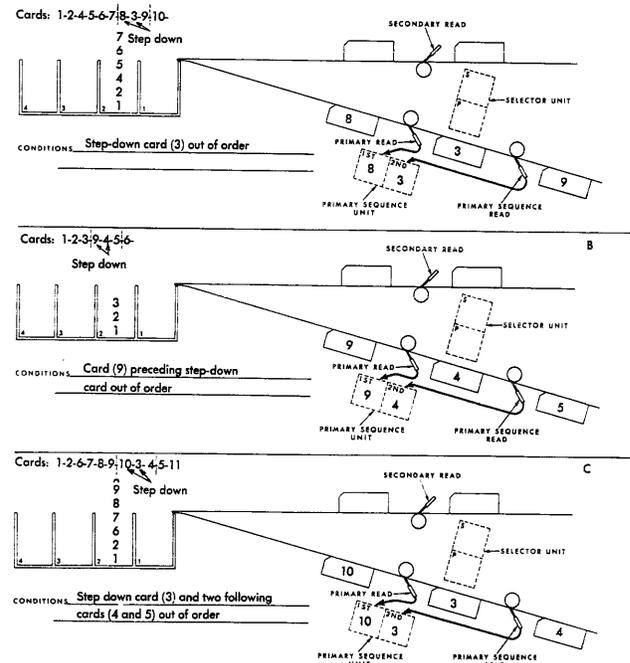

Figure 47. Three Types of Sequence Errors
so that they can be properly filed manually. Figure 47 illustrates three different errors in sequence: in A, the step-down card (3) is out of order; in B, the card (9) preceding the step-down card is out of order; and in C, the step-down card (3) and the two cards (4 and 5) following it are out of order. The operator should be familiar with these three types of sequence errors.